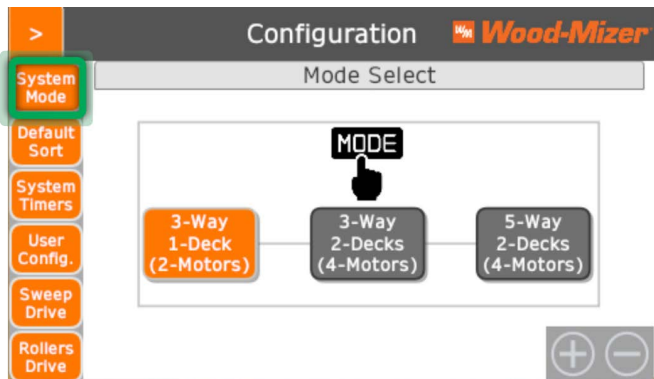

FIG. 3-9
2. Select **System Mode** and then choose deck/sorting configuration that is installed as shown in FIG. 3-9.